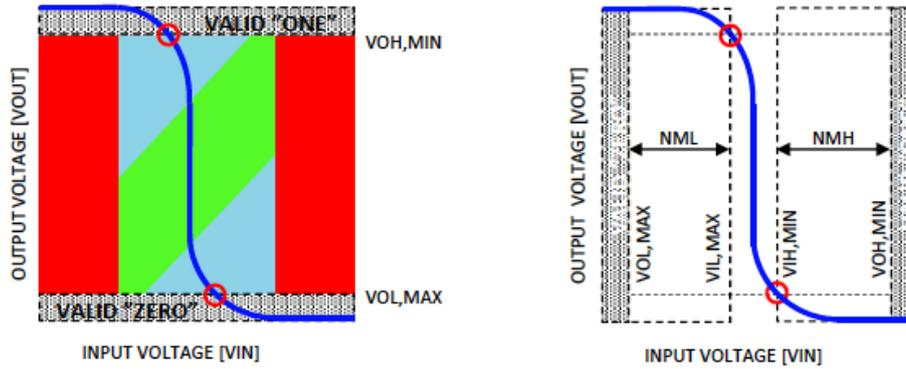

Figure 5.4: The The definition of noise margins.
- a) Derive expressions for the low and high noise margins, NML and NMH, as defined in the Figure 5.4 using the following expressions for $(V_{OL,max}, V_{IH,min})$ and $(V_{OH,min}, V_{IL,max})$: